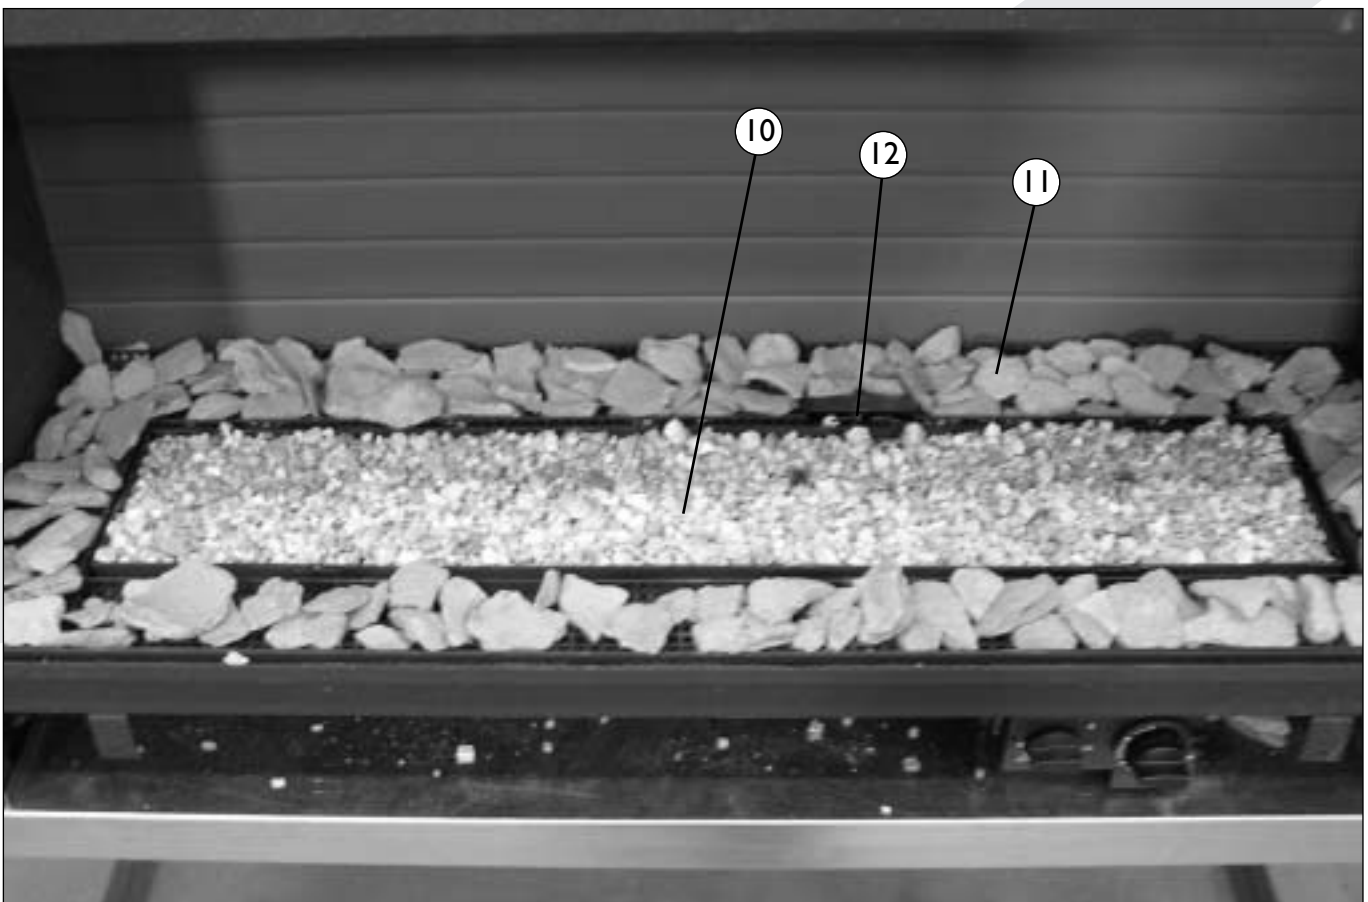

fig. 8
- Fill the burner tray with vermiculite (10) and distribute evenly, (fig. 8).
- Fill the vermiculite tray with chips (11) and distribute this evenly too, (fig. 8).
- Make sure that no vermiculite and/or chips get on or between the (oxypilot) pilot light burner (12) as this could prevent the pilot light from working properly (fig. 8).